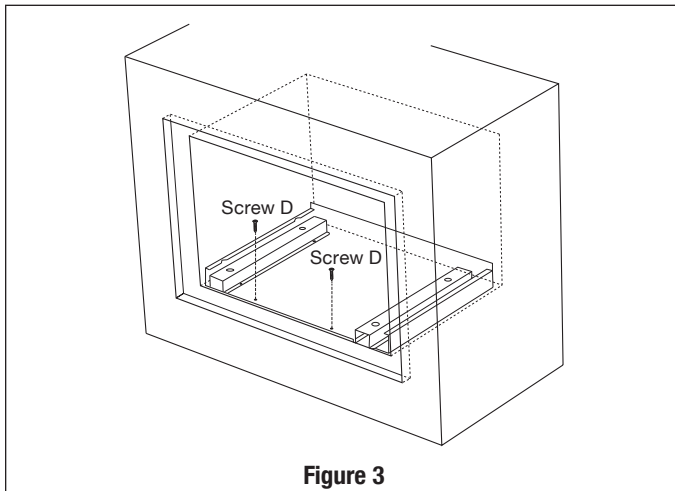

Figure 3
1. Place the EXHAUST DUCT ASSEMBLY in the center of the opening. Align the front edge of the duct with the front of the cabinet. Align the front edge of the right side of the duct with the front of the shelf. See Figure 3.
2. Secure the EXHAUST DUCT ASSEMBLY with 2 SCREWS D. See Figure 3.